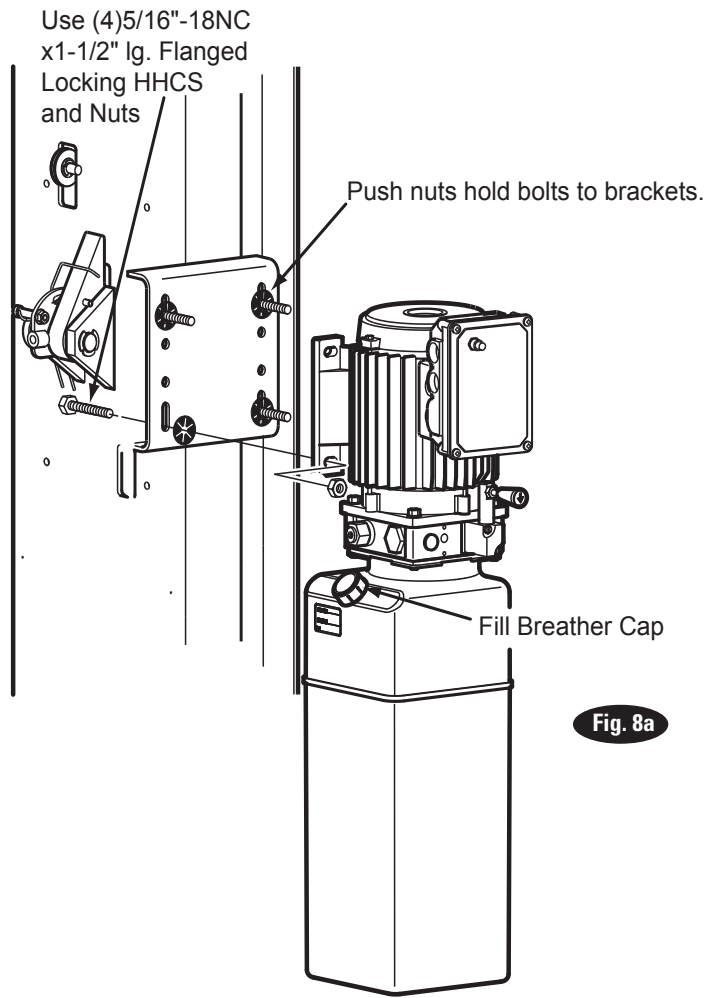

Fig. 8a
**9. Power Unit:** Put the (4) 5/16"-18NC x 1-1/2" flanged locking HHCS thru holes in power unit bracket using Push-Nuts to hold in place, Fig. 8a. Mount unit with motor up to column bracket and install (2) 5/16" Flanged locking Nuts. Install and hand tighten Branch Tee to pump until O-ring is seated. Continue to tighten the locknut to 10-15 ft-lbs., or until the nut and washer bottom out against the pump manifold. **NOTE:** You may still be able to rotate the Branch Tee. This is acceptable unless there is see page at the O-ring. If so, slightly tighten the locknut.
**15. Oil Filling & Bleeding:** Use Dexron III ATF, or Hydraulic Fluid that meets ISO 32 specifications. Remove fill-breather cap, Fig. 8a. Pour in (8) quarts of fluid. Start unit, raise lift about 2 ft. Open cylinder bleeders approximately 2 turns, Fig. 9a.